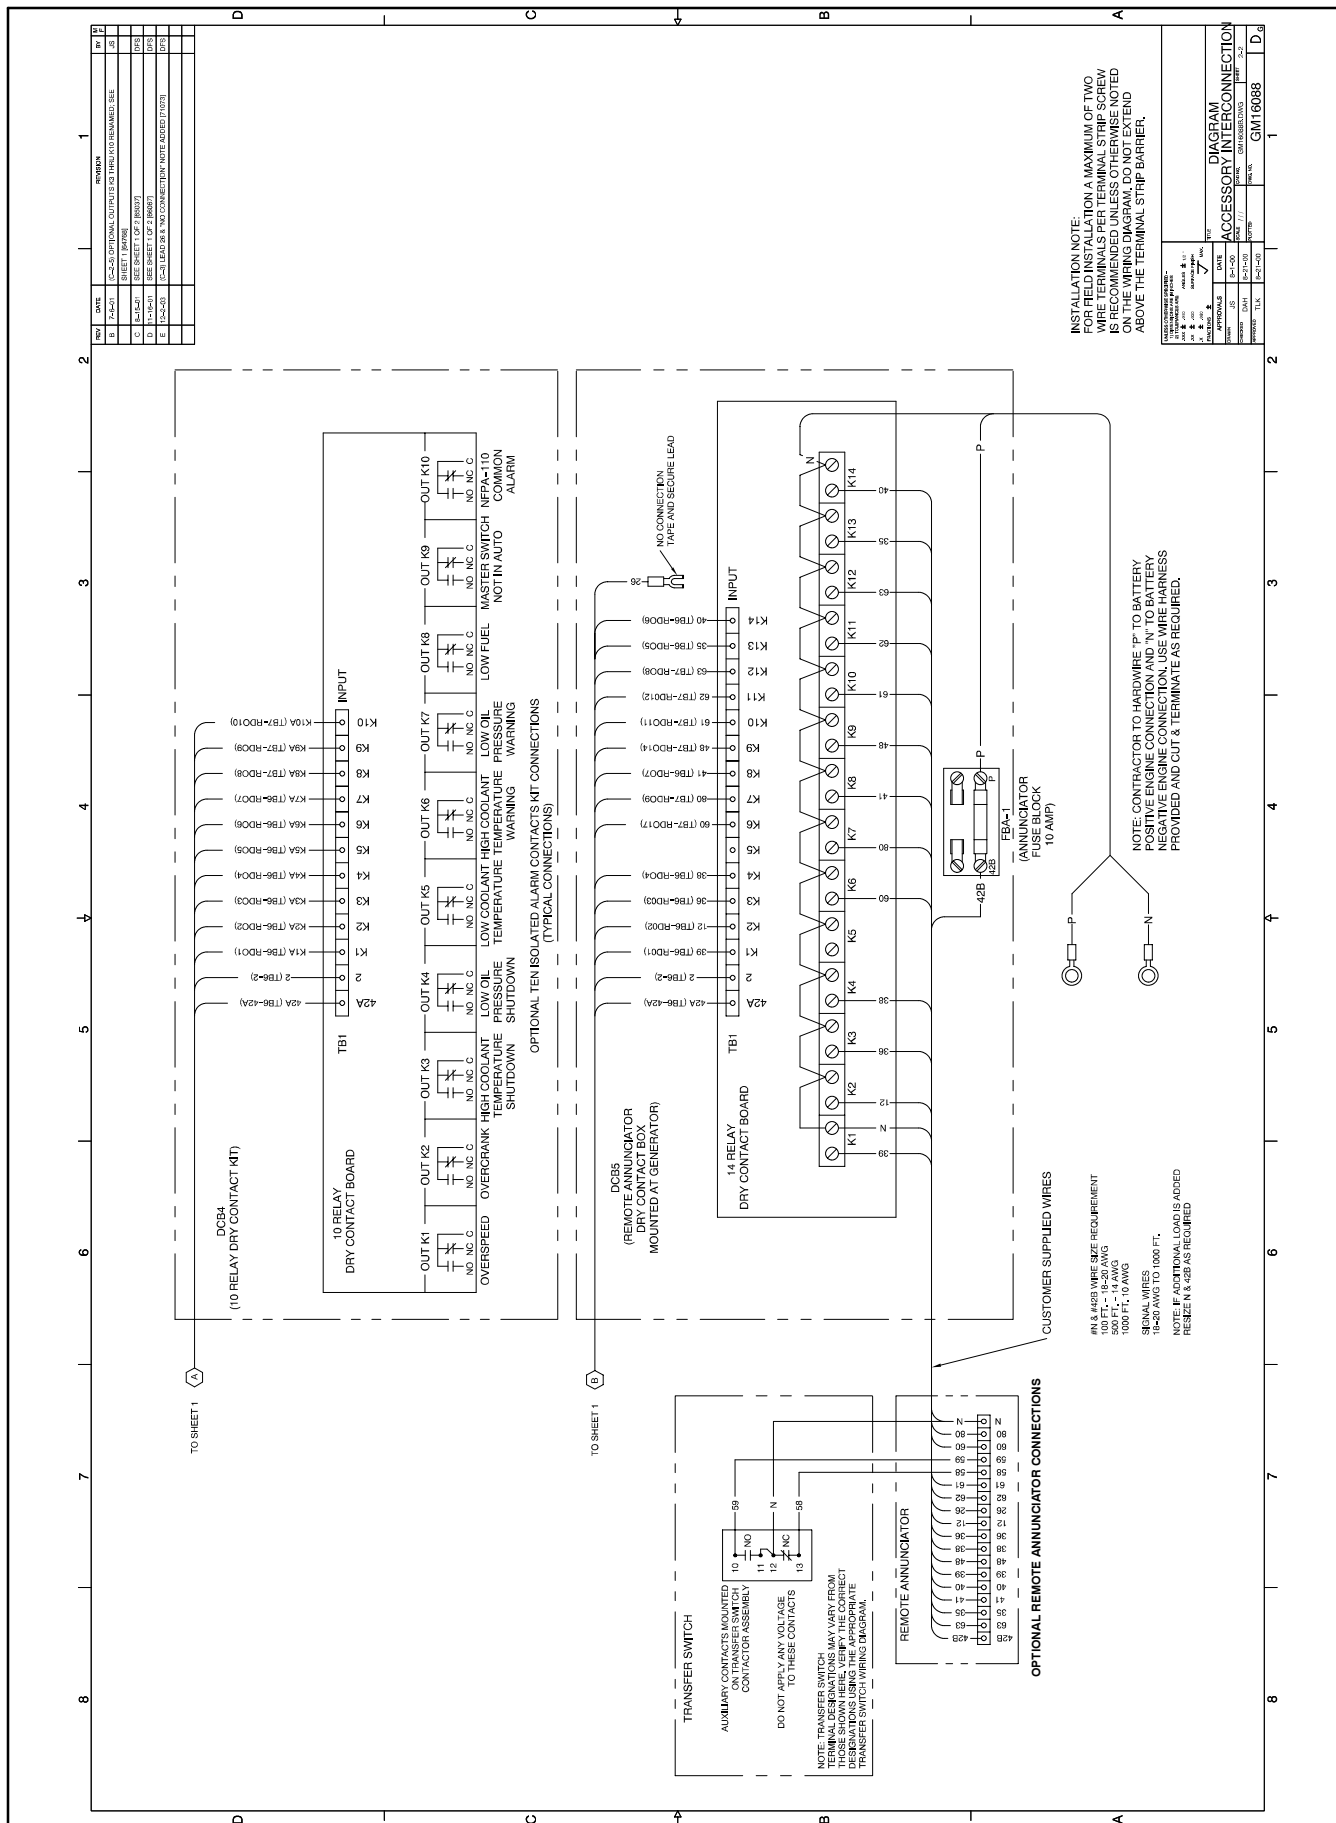

Figure 10 14-Relay Dry Contact Assembly Connections
- 5.1 Connect the 14-relay dry contact wiring harness (293982) to the controller connection assembly in the junction box. See Figure 10.